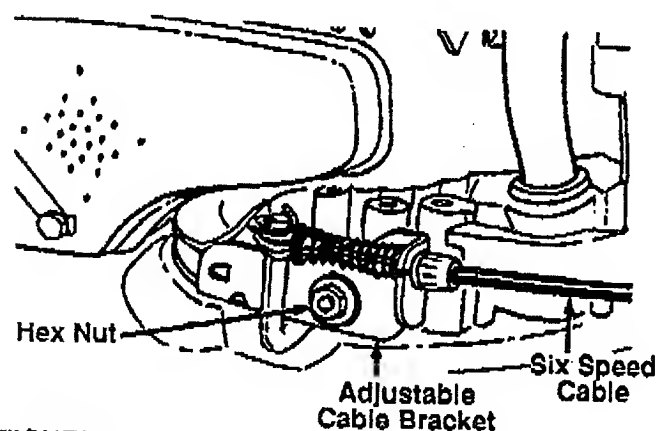

FIGURE 13.
- Loosen the nut which secures the adjustable cable bracket, located on the left side of the engine. See figure 13.
- Place the shift lever in high speed (6) position.